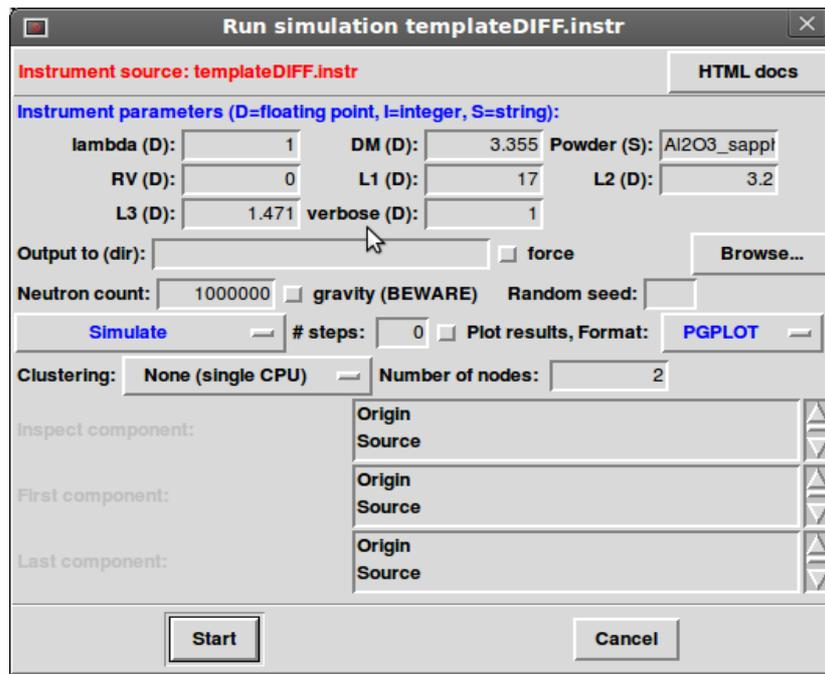

Figure 3: The McGUI/Run window.
- The 'Run simulation' dialog opens (Figure 3). Instrument parameters are shown with their default values. Contextual help exists when moving the mouse over each parameter name. Additional help can be obtained when selecting the top-right **HTML docs** button.